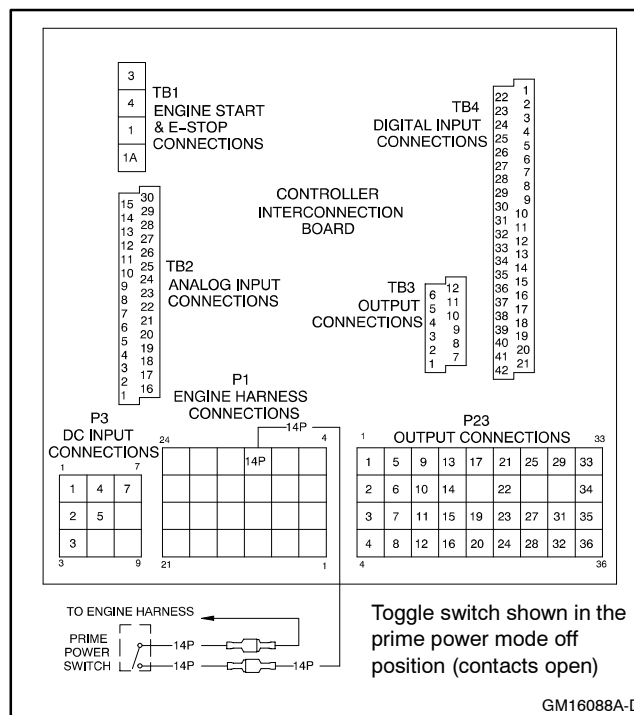

Figure 2 Toggle (Prime Power) Switch Connections
- 4.5 Connect the toggle switch lead (SW14P-1415-15057) to the female push-on terminal on lead 14P. See Figure 2.
- 4.6 Connect the toggle switch lead (SW14P-1415-5757) to the male push-on terminal on lead 14P. See Figure 2.